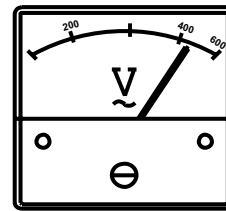

Figure 34. Voltmeter
8. The generator's AC voltmeter (Figure 34) will display the generator's output in **VOLTS**.